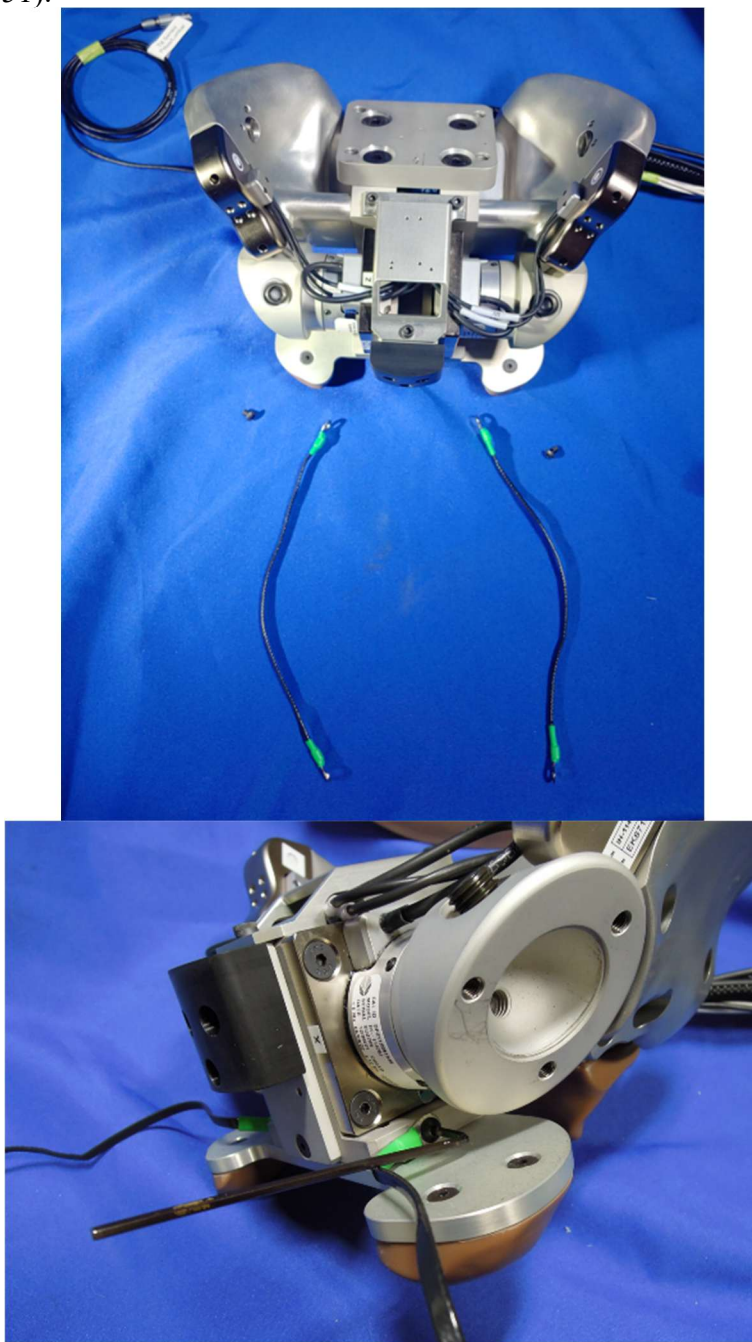

Figure 8-51. Install ground cables
- 8.3.21 Install ground cables to the left and right sides of the center pelvic bone (Figure 8-51).